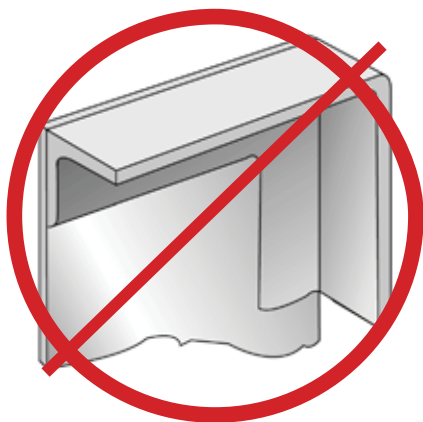

Figure 5: Avoid uneven thickness at joints
- Use parts in an assembly that are of equal or near equal thickness, especially at joints (Figure 5).